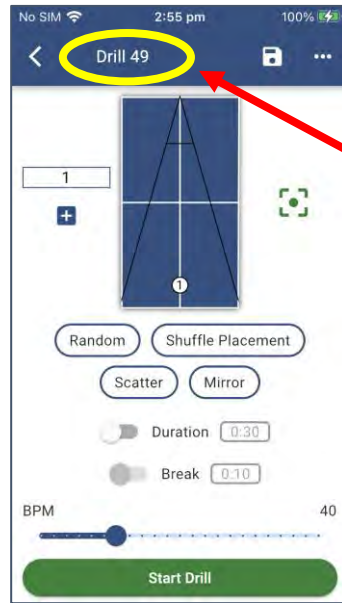
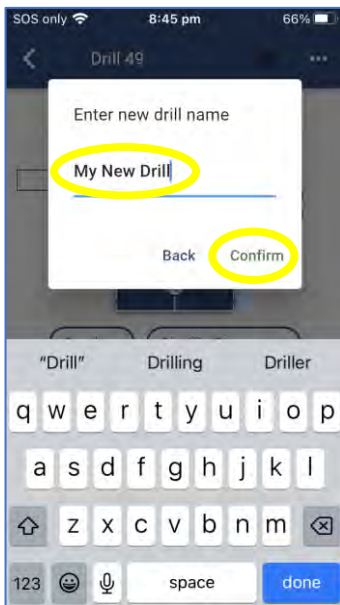

Figure 3-38
Figure 3-39
2. From the Drill Edit screen, touch the name of the Drill. (Figure 3-38) This will open a new window where you can enter a new Drill Name. (Figure 3-39)
3. Enter a new Drill Name (Example: My New Drill) and press the Confirm button. (Figure 3-39)